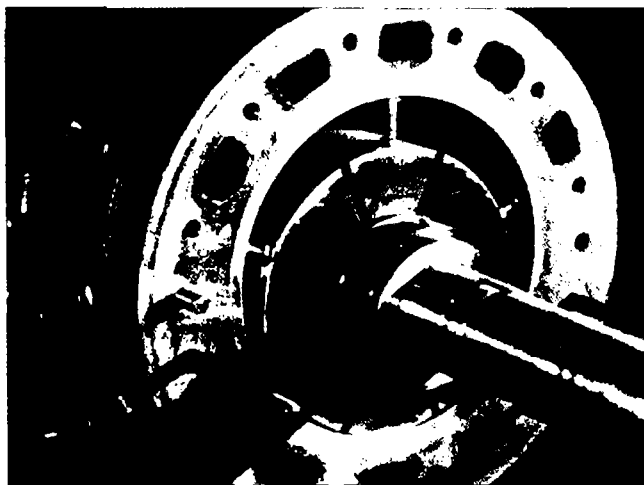

FIG 16. — Rotor alignment for redoweling.
4. Secure rotor at three points on each end with brass bolts and nuts, as shown in Figure 16. The head of each bolt will butt against cylinder wall. The shank of the bolts, which are 22° from centerline, will extend into rotor slot. The third bolt wedges top of cylinder to top of rotor. The nut on each bolt is turned to lock the rotor into position.